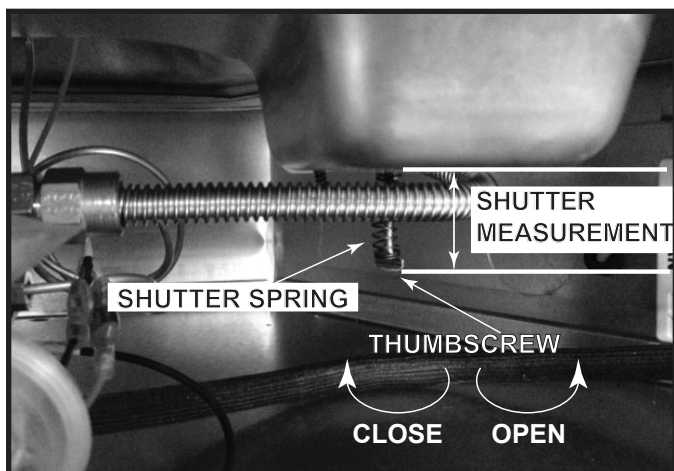

Figure 9.1 Adjusting Air Shutter
- Adjust air shutter for longer vertical runs. See Figure 9.1. Turn the thumbscrew to open or close the air shutter. It may be necessary to use a pliers or crescent wrench to adjust the shutter. See chart below for correct shutter settings. The shutter measurement is taken from the bottom of the tub to the bottom of the thumbscrew. See Figure 9.1.